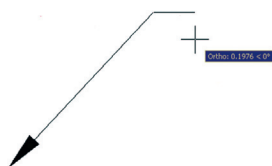

FIGURE 6.15
- Step 4.** Turn Ortho back on and draw a short line to the right, clicking when done; this is your *horizontal landing*, as seen in Figure 6.15.